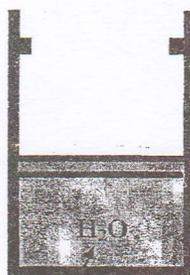

Figure P.9
9. A piston cylinder device shown in **Figure P.9** contains 2 kg of water initially at a pressure of 500 kPa with a quality of 20 %. The water is heated until it becomes a saturated vapor. The volume of the system when the piston is at the upper stops is 0.4 m^3 . Sketch the process on P-v and T-v diagrams and determine: [8]